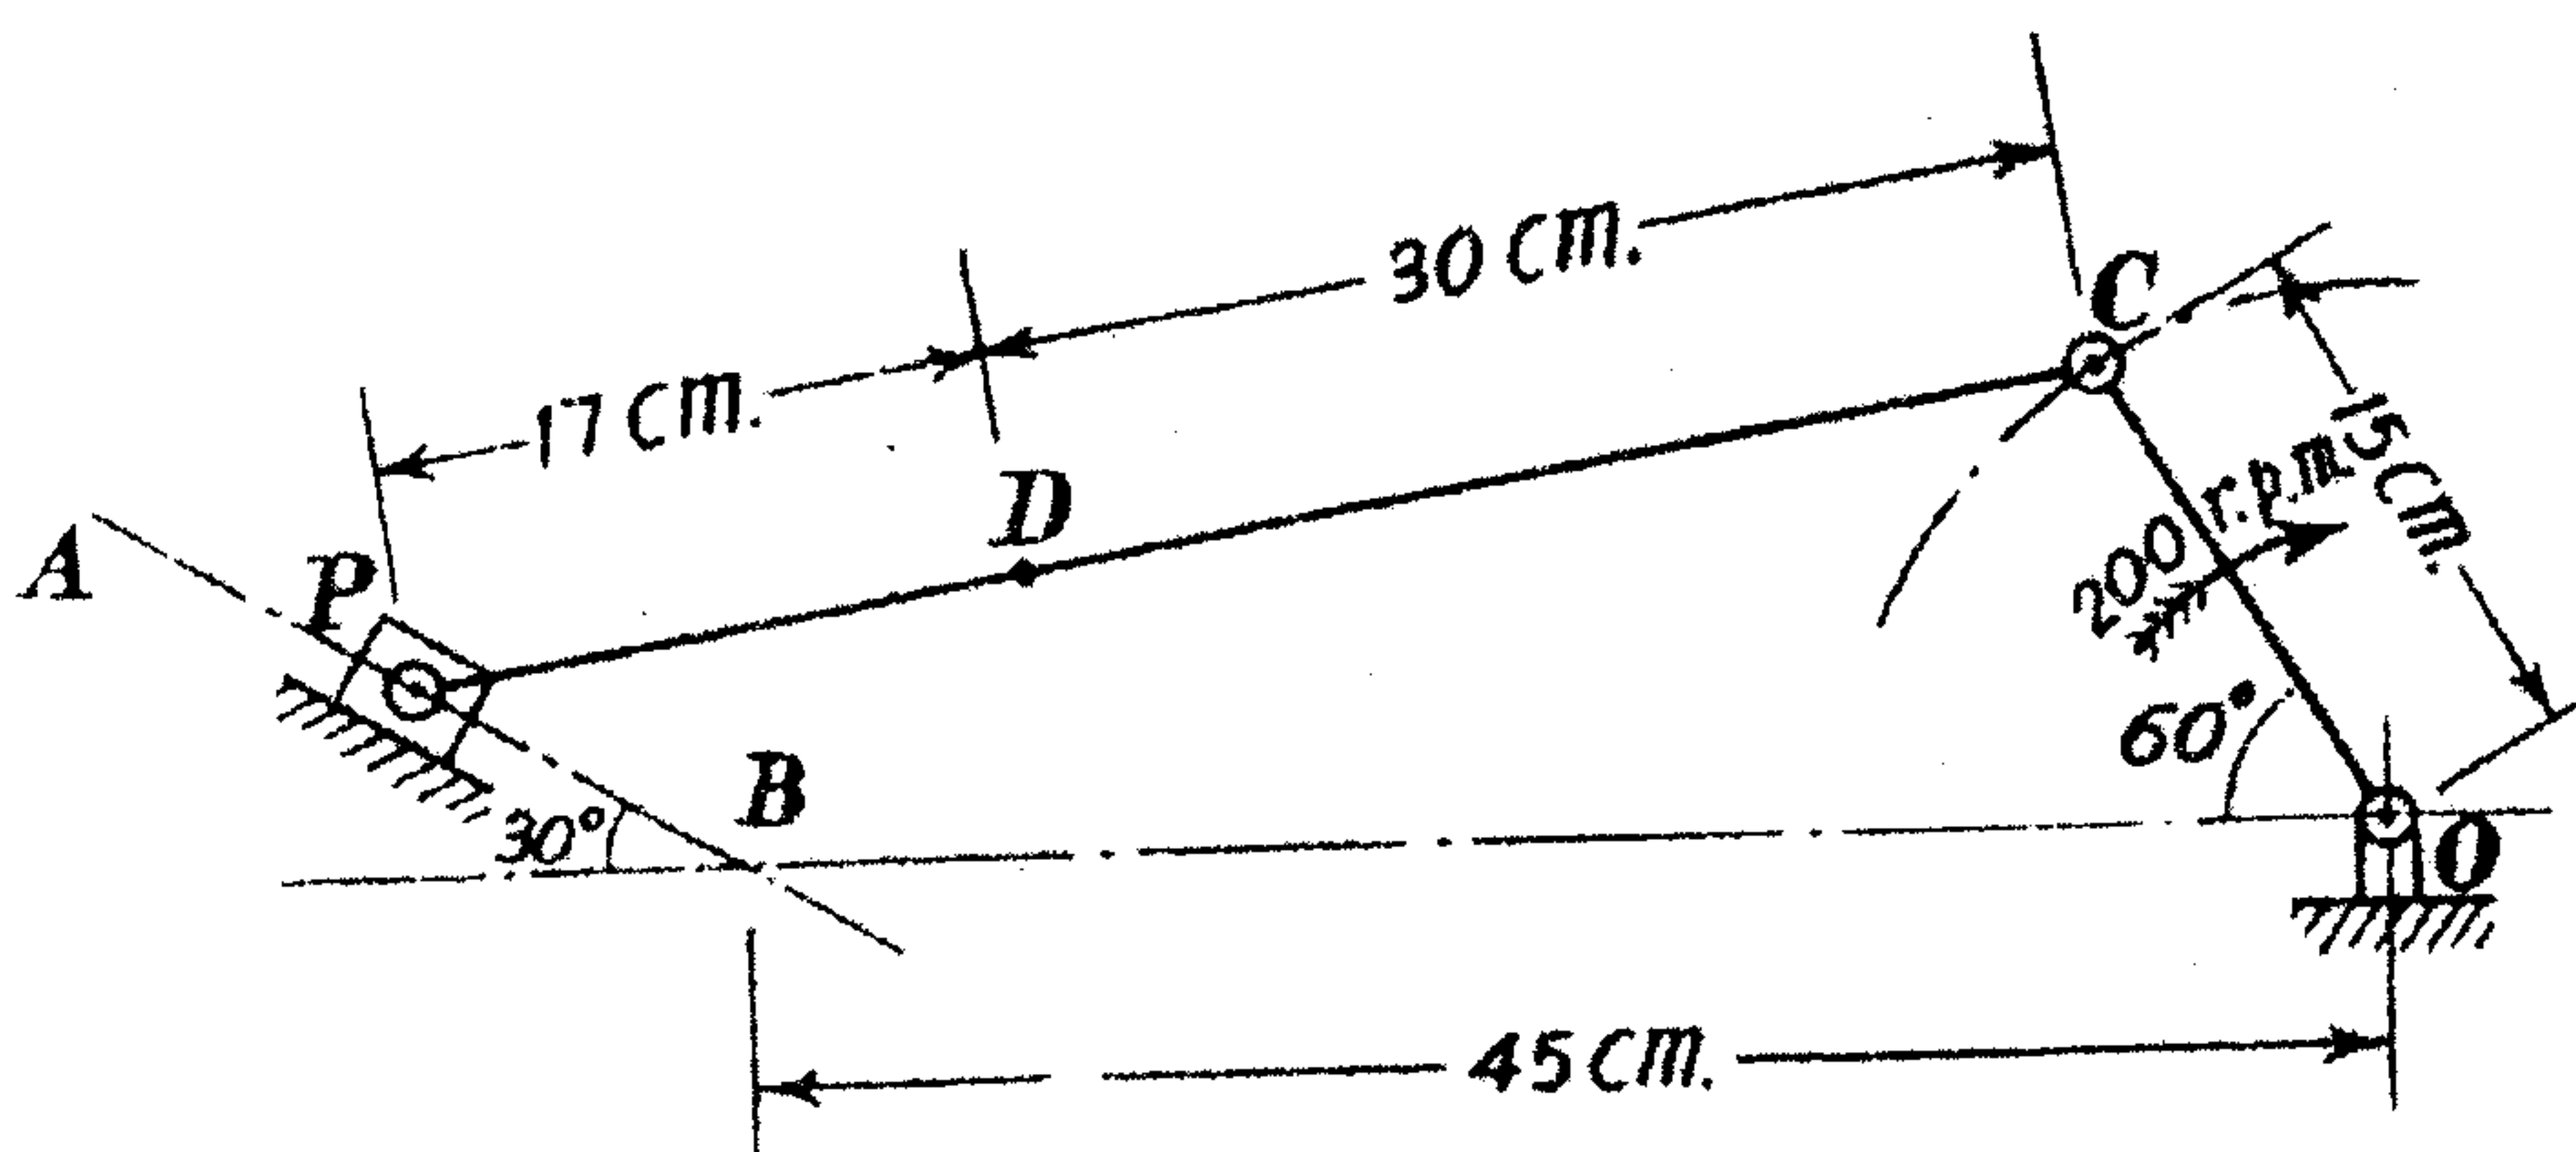

Figure 2 Slider Mechanism.
13. In the slider crank mechanism shown in Fig. 2, block P reciprocates along the fixed line A and the crank has a uniform speed of 230 rpm. Determine for the given configuration, the velocity and acceleration of the block P and the point D.